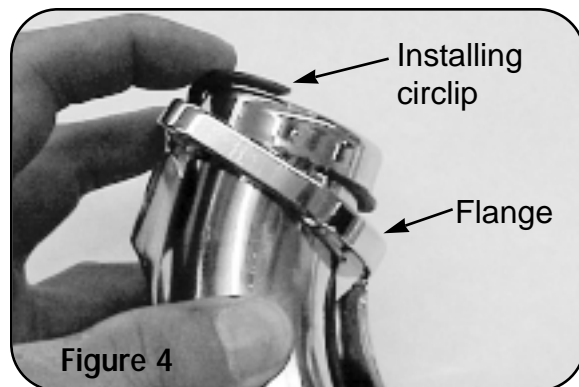

Figure 4
4. Install exhaust port flanges and circlips (from stock system) onto head pipes. (Figure 4)